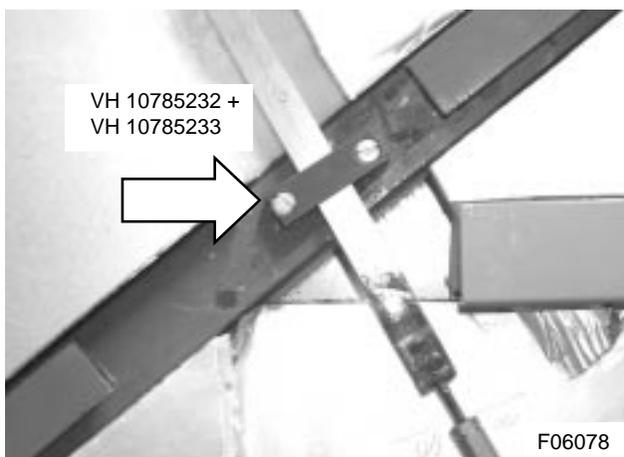

Figure 17: Emergency handle pull rod guide
- 10) Using base plate VH 10785232 as a template, mark and drill two mounting holes (diameter 4.25 mm) in the door frame. Tap with an M5 tap to accept flat head screws VH 660282101 (see Figure 17).